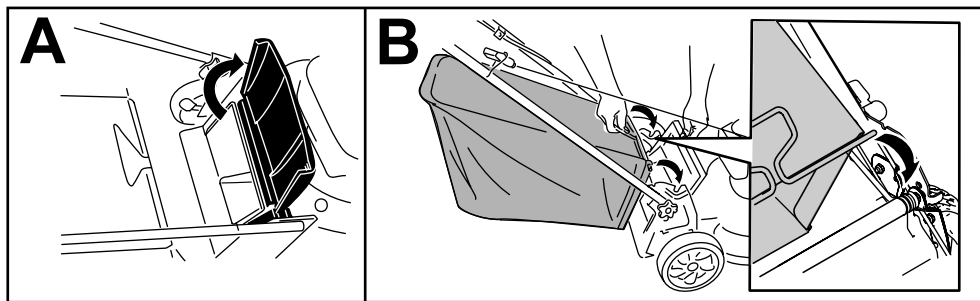

Figure 22
1. Raise and hold up the rear deflector (A of Figure 22).
2. Install the grass bag, ensuring that the pins on the bag rest in the notches on the handle (B of Figure 22).